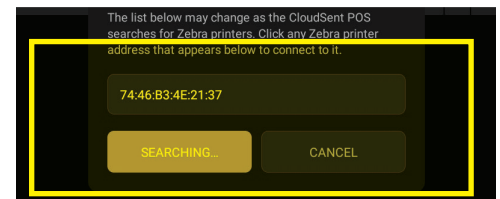

Figure 35
6. Select the correct Bluetooth address for your Zebra printer (Figure 35).